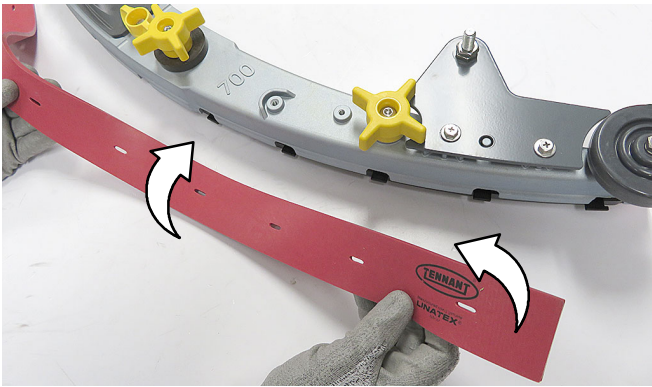

FIG. 147
- Rotate the rear blade to a new wiping edge and reinstall blade (Figure 147). Make sure to align the slots in the blade with retainer tabs.